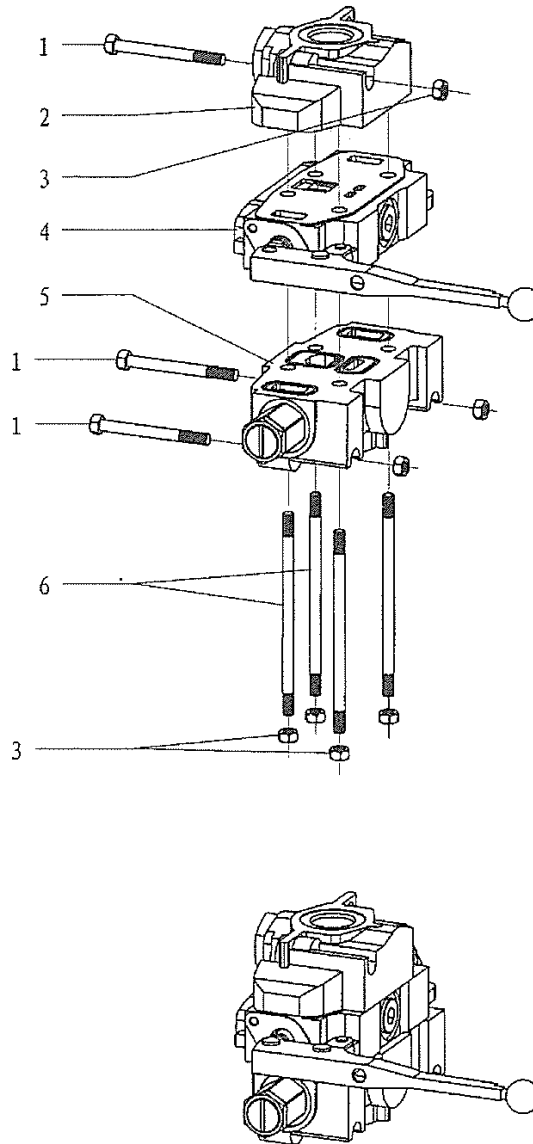

Fig10.
8.8.1 Hydraulic valve bank (three connection valve) (Fig10. Table10)